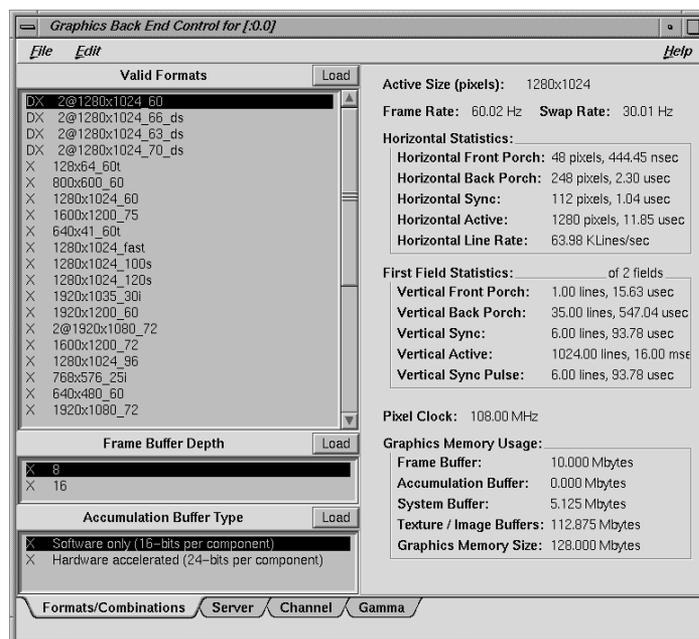

Figure 4-10 Graphics Back End Control Window
The Graphics Back End Control window appears, as shown in the example in Figure 4-10.
4. Select the desired Accumulation Buffer Type in the Graphics Back End Control window (see Figure 4-10), and then click the **Load** button.